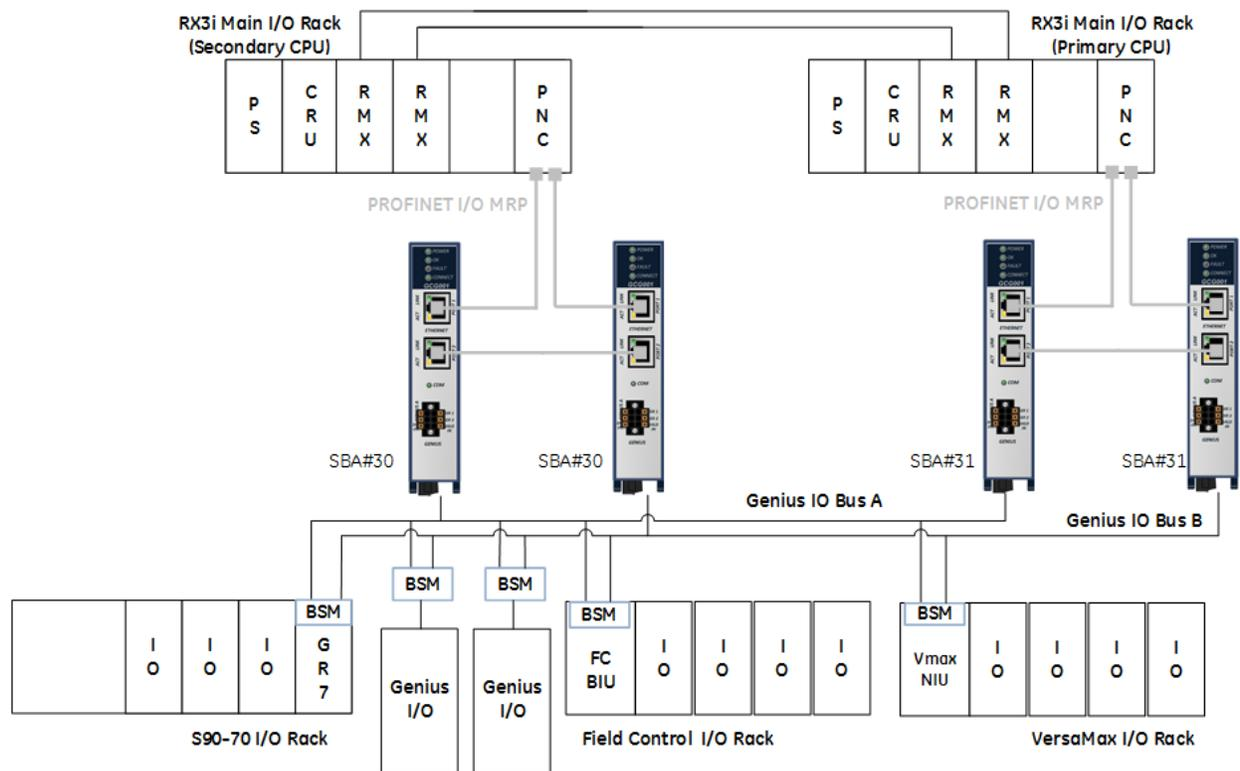

Figure 20: GCG001 Units Deployed in Genius Hot Standby Dual Bus Redundancy
Genius Hot Standby Dual Bus Configuration combines the two architectures discussed in Section 3.2.2 and 3.2.3. The result is diagrammed in Figure 20. There is a total of four Genius Bus Controllers involved, here shown as GCG001 units.
- The two CPUs are synchronized to accomplish Hot Standby. In Figure 20, a dual RMX link is diagrammed. For a CPE400, the synchronization would be performed over LAN3.